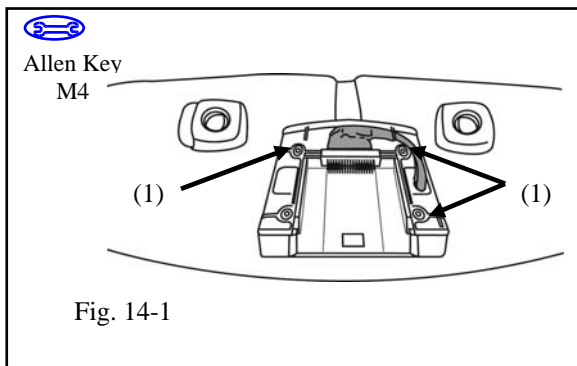

Fig. 14-1
- (1) Using a razor knife carefully cut the seat material in the (DR) location.
- (2) Using a razor knife mark carefully cut the four circles marked in the seat material.
- (c) Route the passenger side seat top dock harness (Blue and yellow color coded connectors) from the seat top dock down to the bottom of the seat. (Fig. 14-1)
- (d) Attach the seat top dock using four M4 x 28mm screws (1). (Fig. 14-1)
- (f) Snap the plastic top cover on the seat top dock. (Fig. 14-1)